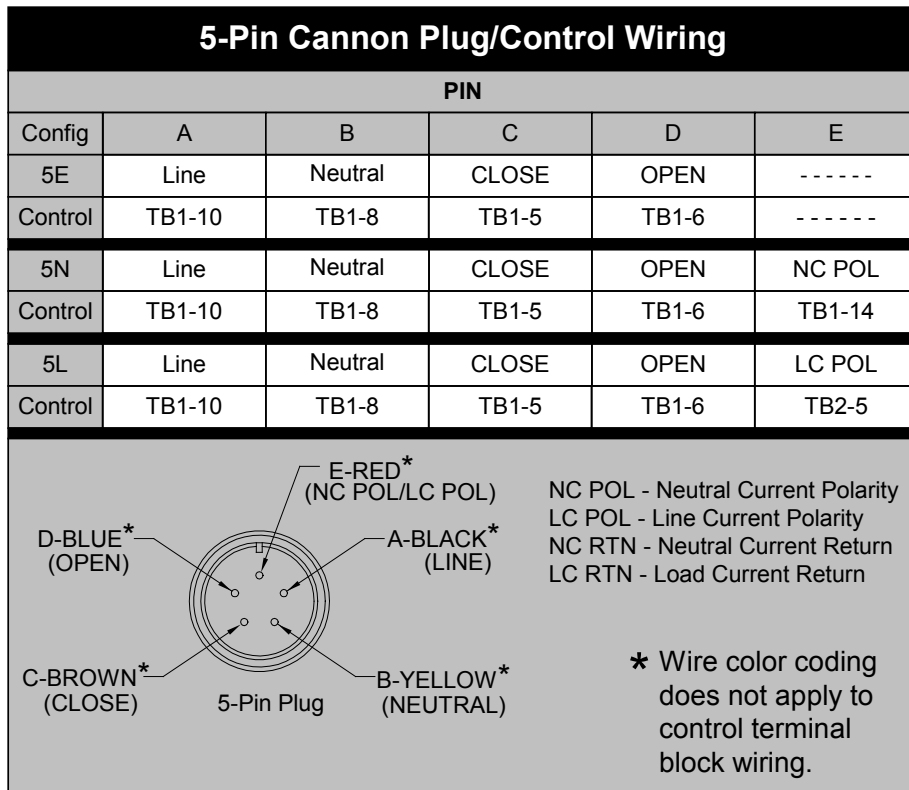

Figure 13 5-Pin Cannon Plug/Control Wiring
- 5-Pin Cannon Connector (5E Standard) (Figure 13), Cannon Bulkhead Shell 18-11P
- Optional 5 and 7-Pin wiring configurations available (Figures 13 and 14)
- 5-Pin Cannon Connector Shell 18-11P (5E Standard) (Figure 13)